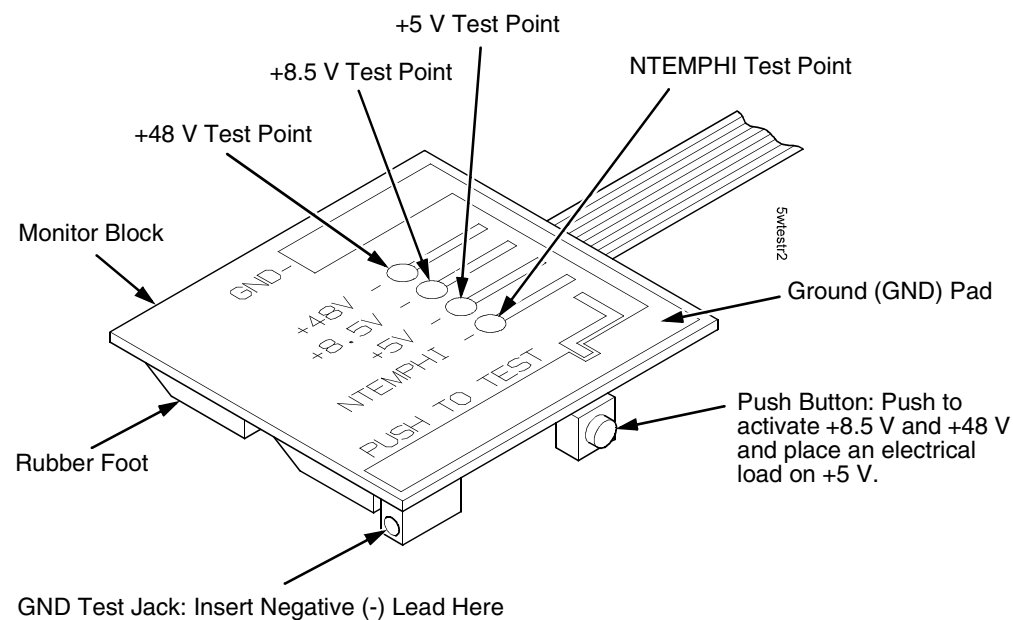

Figure 13. Testing the Power Supply
8. Insert the negative (-) lead of the voltmeter into the ground (GND) test jack on the Monitor Block. If the negative lead does not fit into the GND test jack, touch the negative lead to the ground (GND) pad. (Figure 13.)
10. Touch the positive (+) lead of the voltmeter to the +5 V test point on the Monitor Block. The voltage should be 4.85 to 5.15 volts. (Figure 13.)
11. Measure the voltage at the NTEMPHI test point; it should be greater than 2.4 volts. (Figure 13.)
12. Measure the voltage at the +48 V test point; it should be less than 0.2 volts. (Figure 13.)
13. Measure the voltage at the +8.5 V test point; it should be less than 0.2 volts. (Figure 13.)
14. Press and HOLD IN the Push Button on the Monitor Block. (Figure 13.)